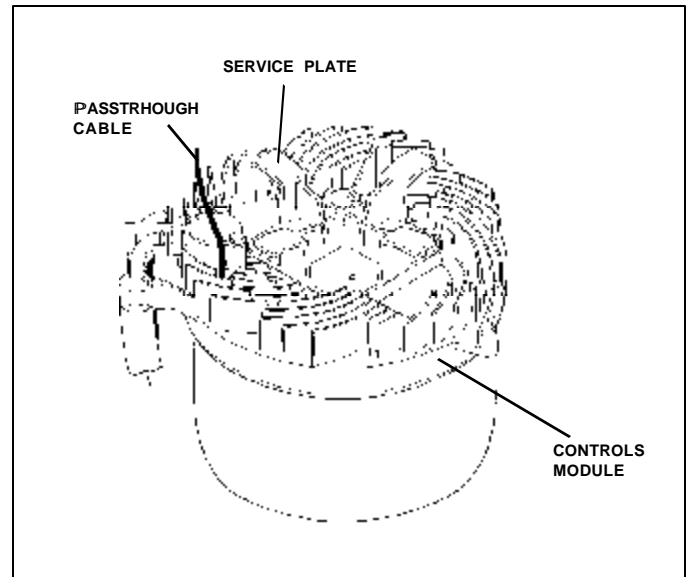

figure 10 Service Plate Location
- If the *Compression Module* will not be replaced immediately, the rotor hole in the *convection plate* must be covered with the *service plate* available from FuelMaker Corporation (See Figure 10).